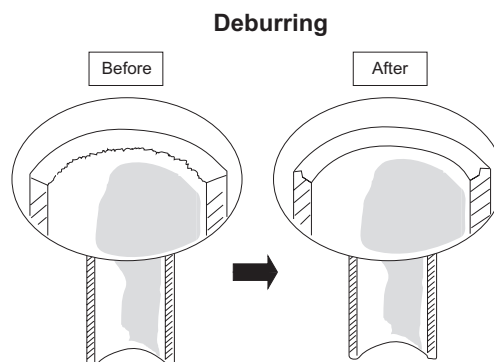

Fig. 2-277
- (1) Cut the copper tube to the required length with a tube cutter. It is recommended to cut approx. 30 – 50 cm longer than the tubing length you estimate.
- (2) Remove burrs at each end of the copper tubing with a tube reamer or file. This process is important and should be done carefully to make a good flare. Be sure to keep any contaminants (moisture, dirt, metal filings, etc.) from entering the tubing. (Figs. 2-277 and 2-278)